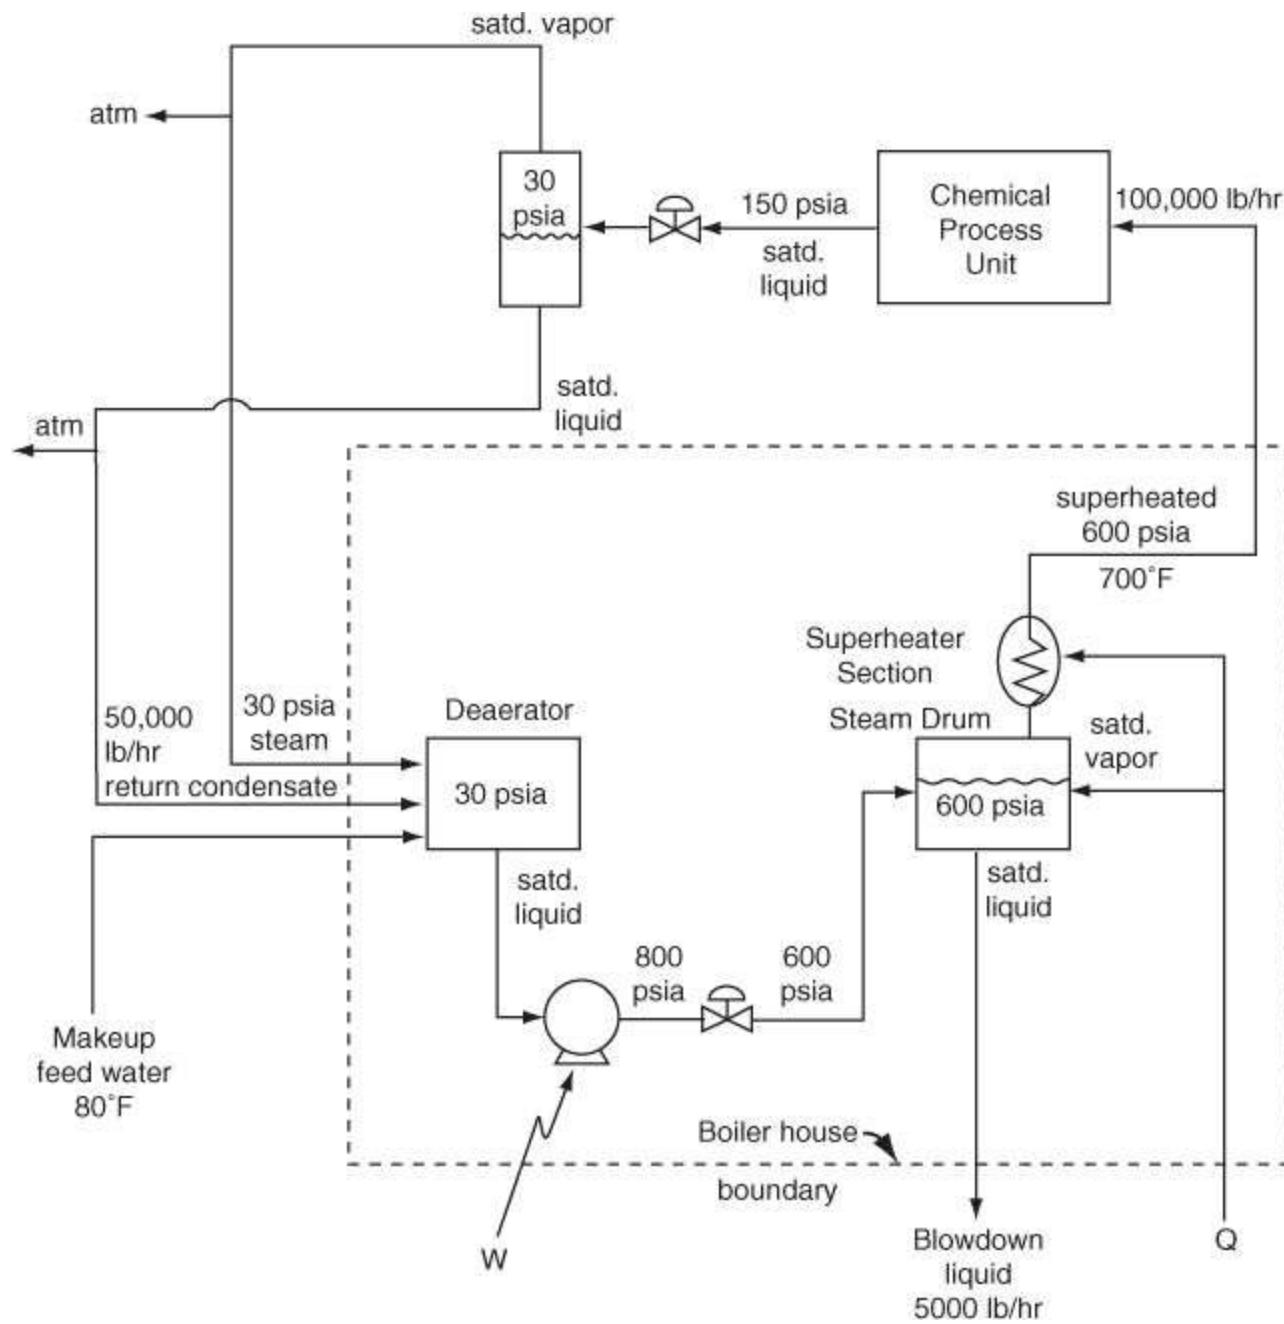

Figure P9.3.50
****9.3.50. A boiler house flowsheet for a chemical process plant is shown in Figure P9.3.50 on page 594. The production rate of 600 psia superheated steam is 100,000 lb/hr. The return condensate flow rate is 50,000 lb/hr. Calculate: